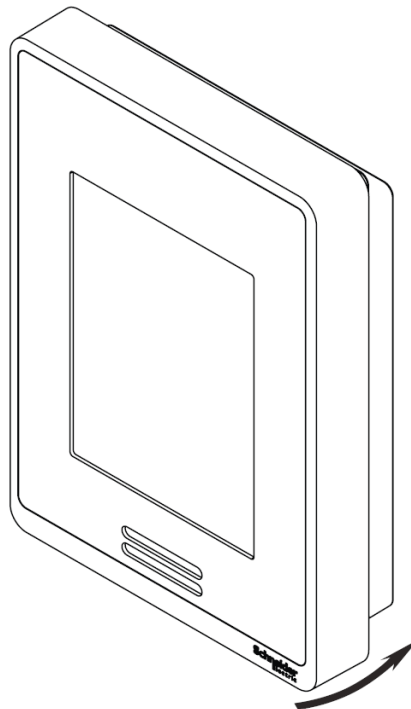

Figure 3
7. Gently push bottom two corners of front plate bottom to secure in place (Figure 3).